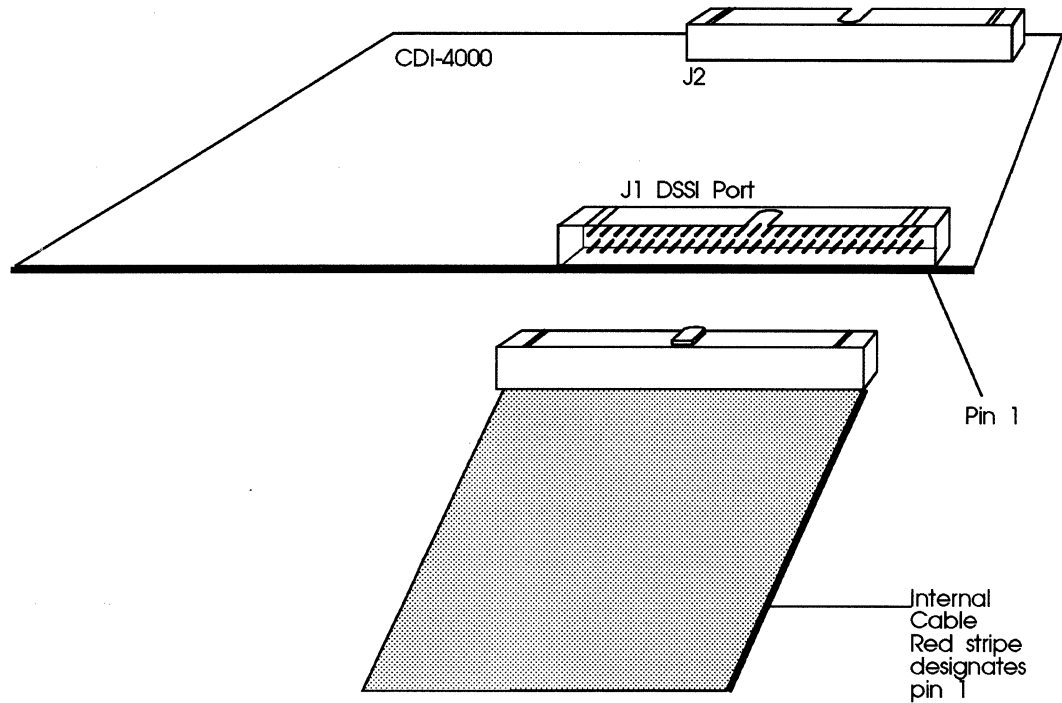

Figure 3-9: DSSI port (J1) cable connection
- 4 Connect the other end of the DSSI cable to the CDI-4000 at J1, DSSI port as shown in Figure 3-9.